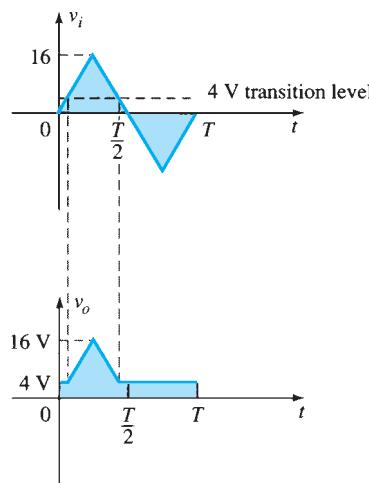

FIG. 2.84
Step 4: In Fig. 2.84 the transition level is drawn along with $v_o = 4 \text{ V}$ when the diode is on. For $v_i \geq 4 \text{ V}$, $v_o = 4 \text{ V}$, and the waveform is simply repeated on the output plot.